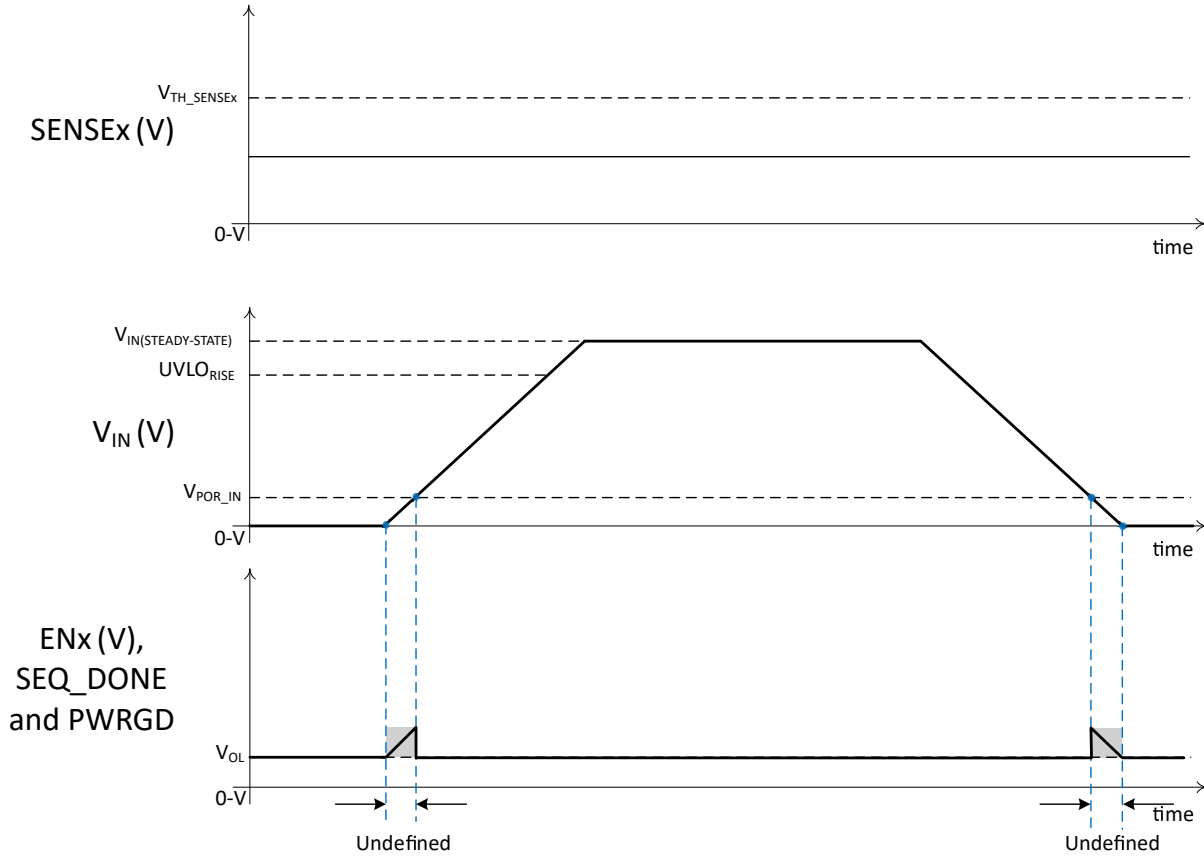

图 7-1. Outputs in a Valid Low State After $V_{IN} > V_{IN-MIN}$
**图 7-1** shows the EN_x outputs relationship to a rising input voltage (V_{IN}). As can be observed, the EN_x are undefined when V_{IN} is lower than $V_{\text{POR_IN}}$ (typically 1.41V). During this time the outputs can be any value from 0V to V_{IN} . In this case, the input voltages to all undervoltage (UV) input comparators (SENSE_x) are below the $V_{\text{TH_SENSE}_x}$ (599mV). For this reason (in conjunction with waiting for a rising edge on UP), the EN_x, SEQ_DONE and PWRGD stays low after V_{IN} rises above $UVLO_{\text{RISE}}$ (typically 2.79V).